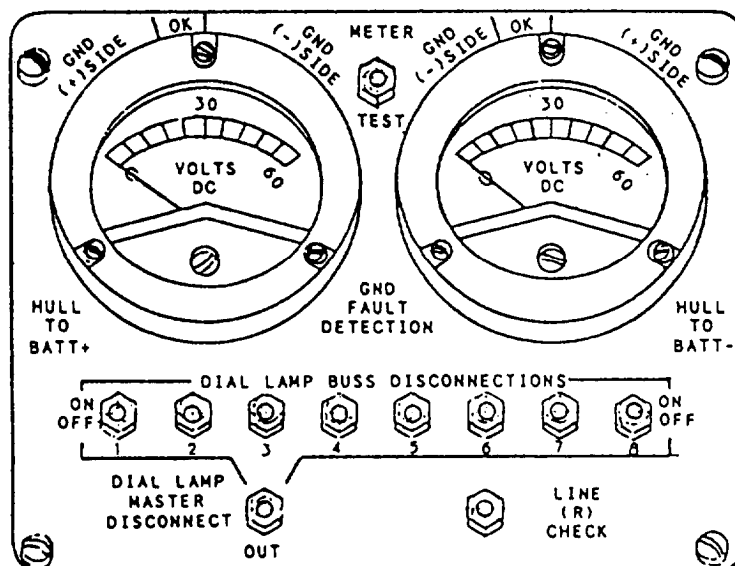

Figure 6.24.—Ground fault detection panel.
**GROUND FAULT DETECTION PANEL.**— The ground fault detection panel (fig. 6-24) detects shorts and/or leakage paths from the ship's wiring to the ship's hull. This panel is located in the lower right corner of cabinet 2. Table 6-5 describes the controls and indicators located on the ground fault detection panel.